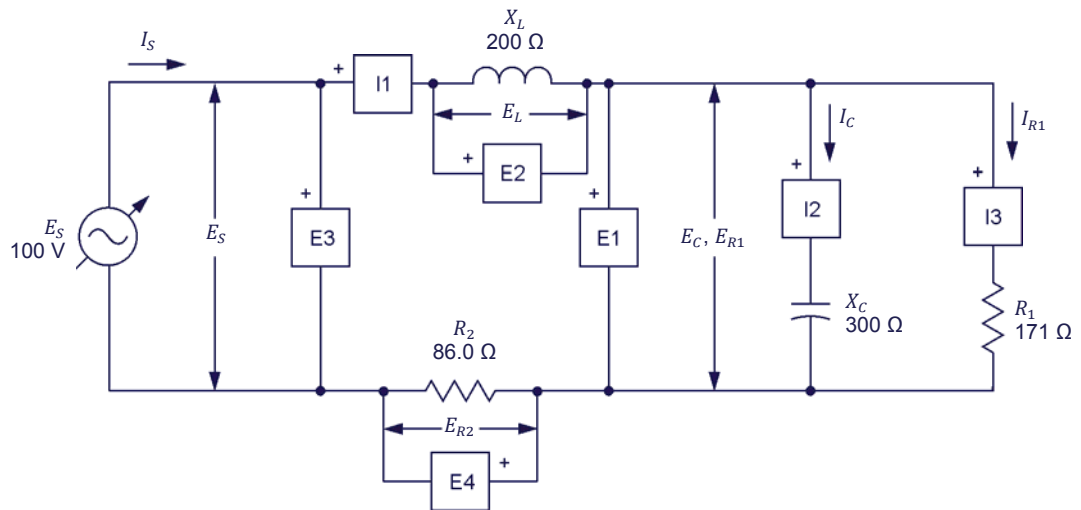

Figure 4-9. AC circuit containing two resistors, an inductor, and a capacitor, and set up for circuit analysis.
6. Set up the circuit shown in Figure 4-9.
8. Resolve the entire circuit of Figure 4-9 using the power triangle method. Assume that the capacitor voltage E_C ($E_C = E_{R1}$) is equal to 50.0 V.